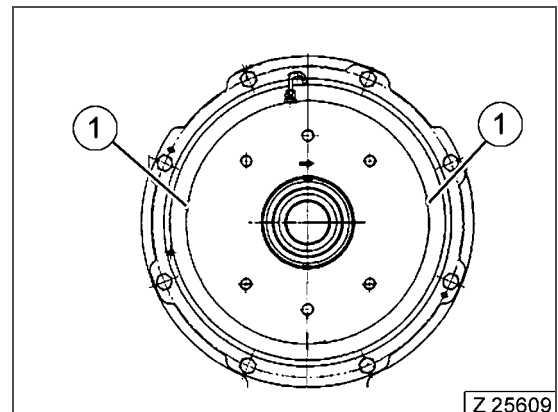

Fig. 3-66
- Refill oil at the level plug (Fig. 3-66, Pos. 1) in the spline shaft housing.